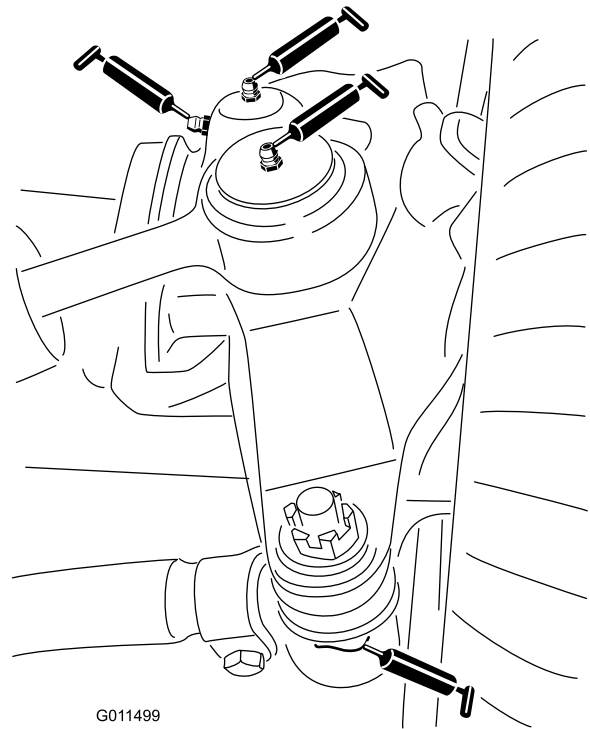

Figure 37
- Steering cylinder ball joints (2) (Figure 37)
- Tie rod ball joints (2) (Figure 37)
- King pin bushings (2) (Figure 37).